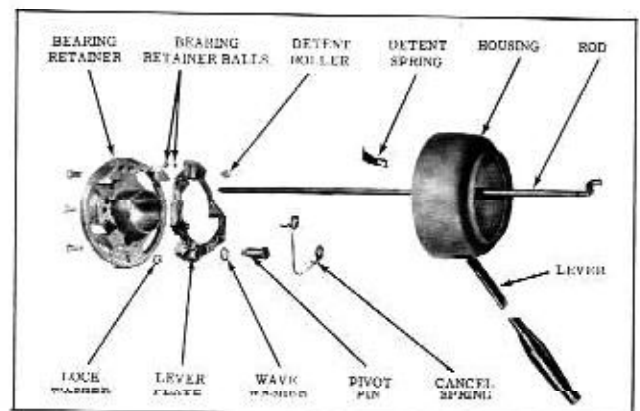

Fig. 4-77 Turn Signal Actuator Assembly
TURN SIGNAL ACTUATOR ASSEMBLY REMOVE AND INSTALL (Fig. 4-77)
4. Depress the detent spring to disengage it from the upper bearing retainer, then separate the lever plate, detent spring, detent roller and detent balls from the upper bearing retainer. (Fig. 4-77)